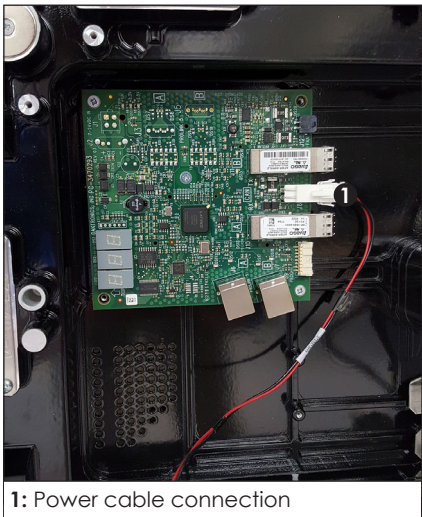
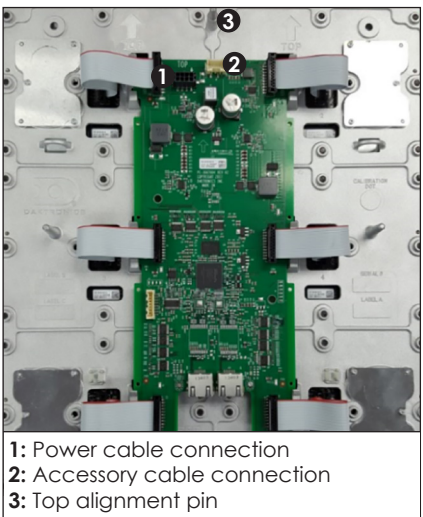

Figure 33: Install PLR
Figure 34: Module Rear
1. Use a Phillips screwdriver and the supplied hardware (Daktronics part number HC-1012 @ 3) to install the PLRs. Hand-tighten to 5 in-lbs. Refer to **Figure 33**.
2. Connect the power cable (W-3758419) to the PLR. Refer to **Figure 33** and **Figure 34**.
- 9. Connect the fan power harness to the accessory cable connection when installing the right module (when viewed from the front). Refer to **Figure 34**.